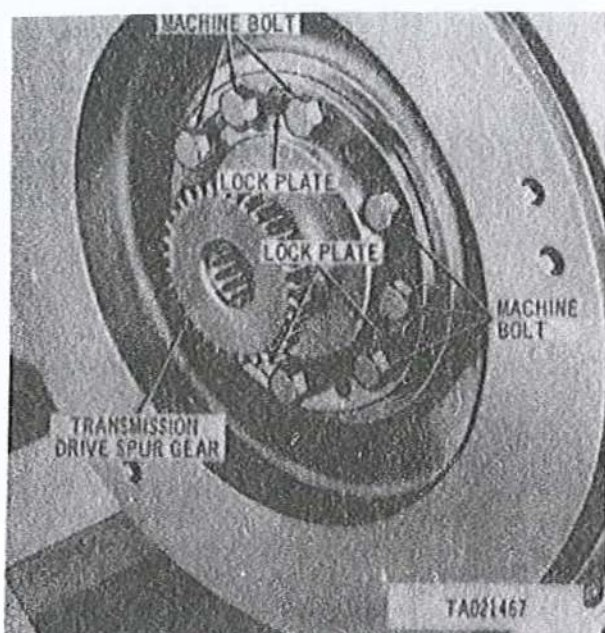

Figure 3-117. Removing or installing transmission drive spur gear, model AVDS-1790-2C and AVDS-1790-2D engines.
a. Straighten tabs of lock plates (fig. 3-117) and remove nine bolts and three lock plates attaching transmission drive spur gear and flywheel to crankshaft. Install three 9/16 x 1-3/4 in. transmission spur gear mounting bolts into puller screw holes and remove transmission drive spur gear from crankshaft dowel pins by alternately tightening the three bolts. Remove the puller screws from the spur gear.